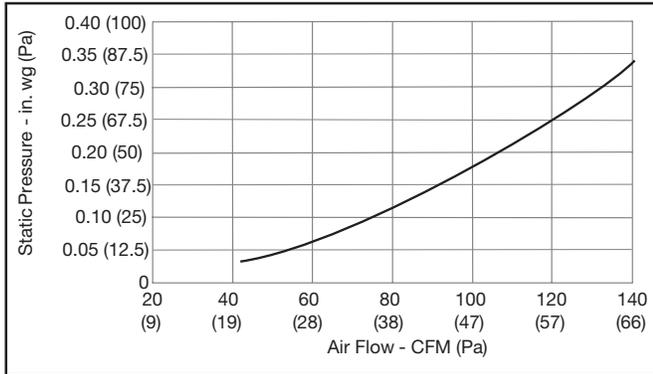

Figure 26. Intake Airflow Chart
- Separate the face plate from the back plate by firmly pulling apart (Figure 26, Boxes B or C). Be careful not to damage face plate contact pins.